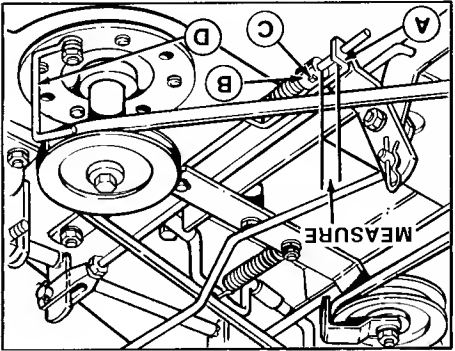

Figure 28. Drive Belt Tension
Using the height control lever, place the mower in highest cutting position. Place the PTO lever in engaged position. The gap between the rod guide (A, figure 28) and the set collar (B) should measure 3/8 to 1/2 inch (10 to 13 mm). If not, disengage the PTO. Loosen the setscrew (C). Move the rod forward to increase the gap or back to decrease the gap then tighten the setscrew. Engage the PTO and recheck the adjustment. Readjust if necessary.
The arbor belt stops are item 1) in figure 28 and item B in figure 29. There should be 1/8 inch (3 mm) clearance between the belt stops and belt when the PTO lever is engaged. If not, loosen the nut, move the belt stop and